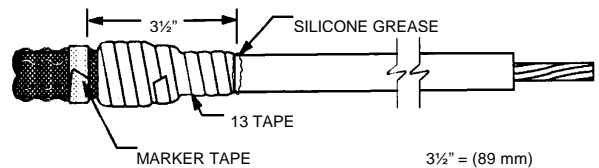

Figure 5
1. Place a marker tape 3½" (89 mm) back from the insulation end of the 13 Tape (**Figure 5**).
2. Cover the edge of the 13 Tape with a liberal coating of silicone grease (**Figure 5**). **NOTE: On this product, the silicone grease does not serve as a lubricant. It must**